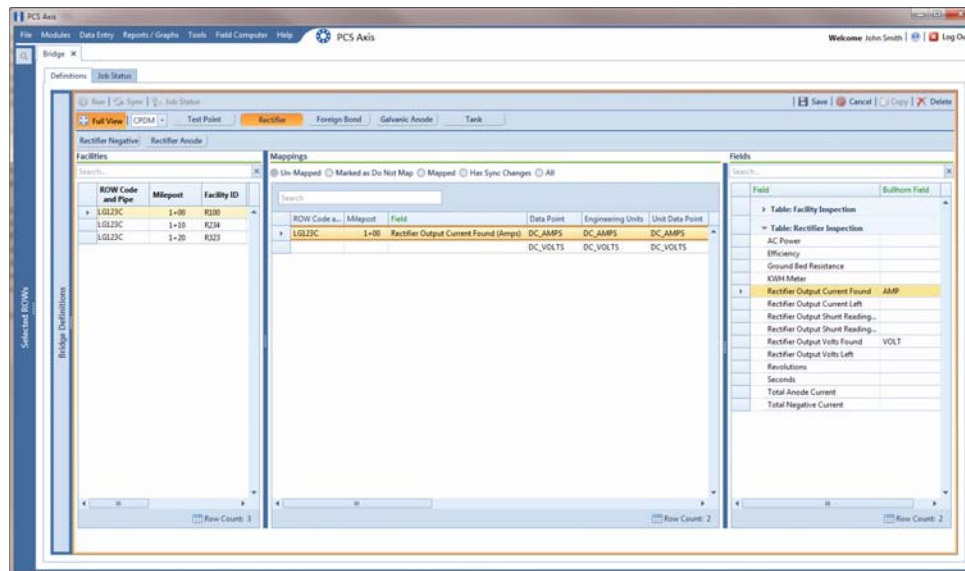

Figure 9-46. PCS Axis and Bullhorn Mappings
- 8 Click  **Save** and then click  **Full View** to hide the *Name*, *Bullhorn Token*, *Time Period*, and survey folder fields. Clicking *Full View* again displays these fields (Figure 9-46, page 432).
- 10 Choose the type of facility data you plan to import. Click a facility type button, such as *Rectifier* (Figure 9-46, page 432).